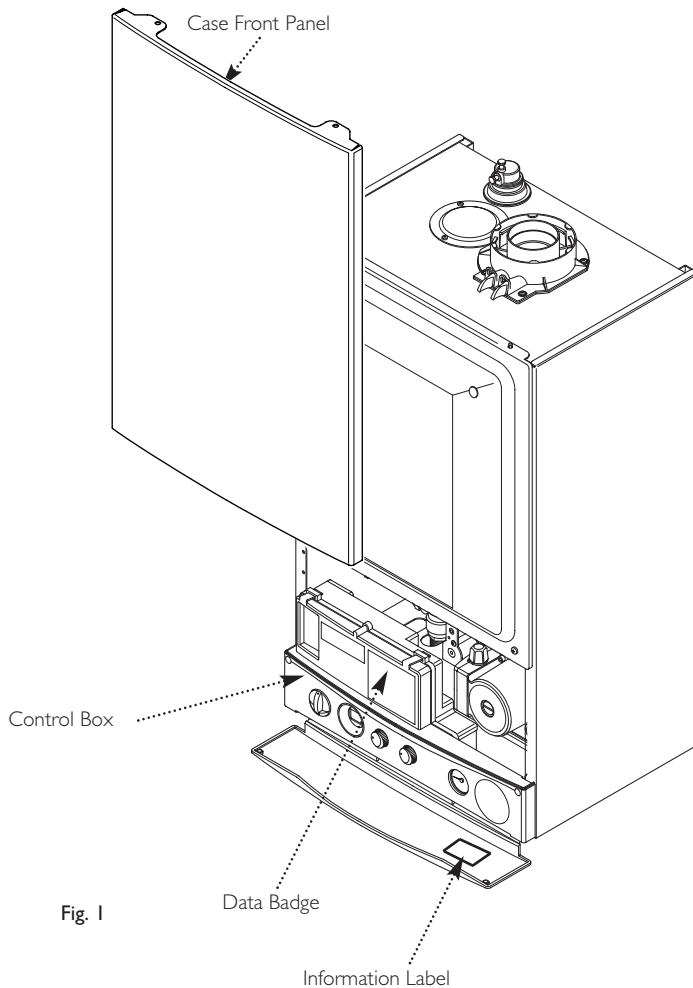

Fig. 1
5. The boiler data badge gives details of the model, serial number and Gas Council number and is situated on the inner door panel. It is visible when the case front panel is removed (Fig. 1).